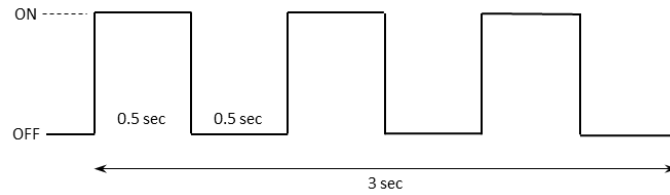

Figure 1-3: The GREEN LED Pattern After the Magnetic Wake-Up/Reset Pattern is Applied
2. **GREEN** is toggled ON and OFF every 0.5 sec for 3 sec as shown in Figure 1-3.